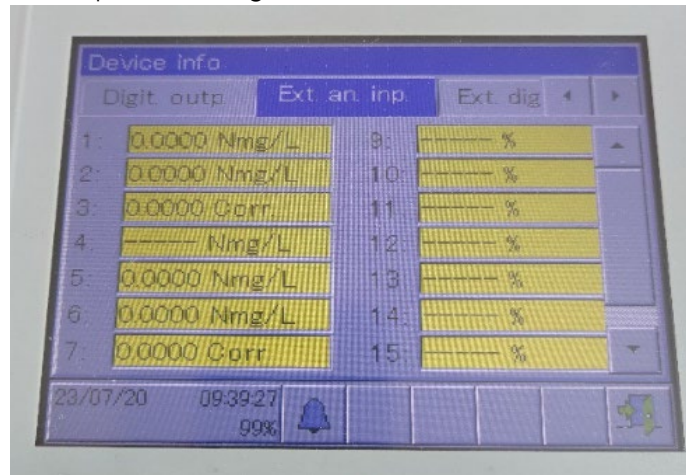

Figure 3 (your screen may show 8 or 16 input fields)
10. Verify that input 1, 2, 3, 5, 6 and 7 have the value '0.0000' (compare Fig 3). If not, continue to last point of this manual.